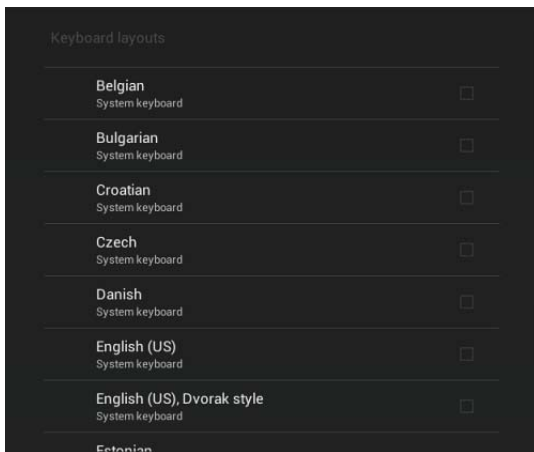

FIG. 75 Keyboard Layout window
- Press **Set up keyboard layouts** to open the *Keyboard Layout* window (FIG. 75):